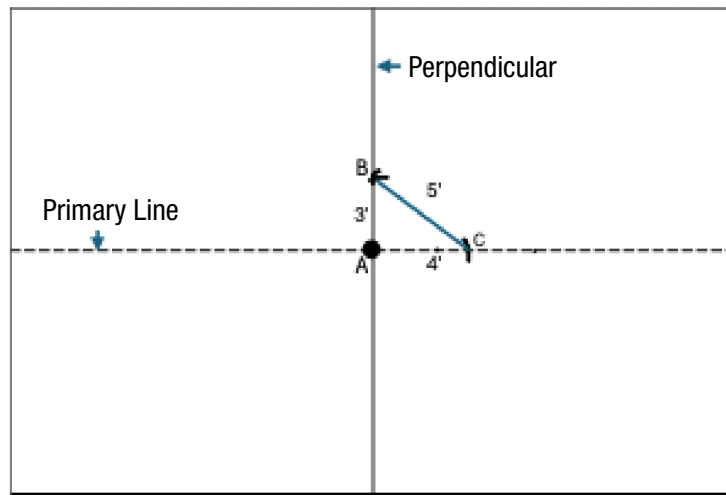

Figure 2
- Snap a line from Point A through the intersection of lines (*Point B*) to get a perfect 90-degree angle (*Figure 2*).